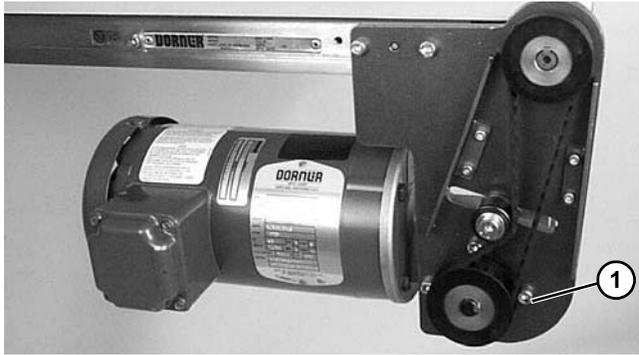

Figure 26
4. Remove four (4) gear reducer mounting screws (**Figure 26, item 1**). Remove gearmotor and gearmotor adapter.
11. Install gearmotor to mounting bracket and tighten screws (Figure 26, item 1) to 103 in-lb (12 N-m).